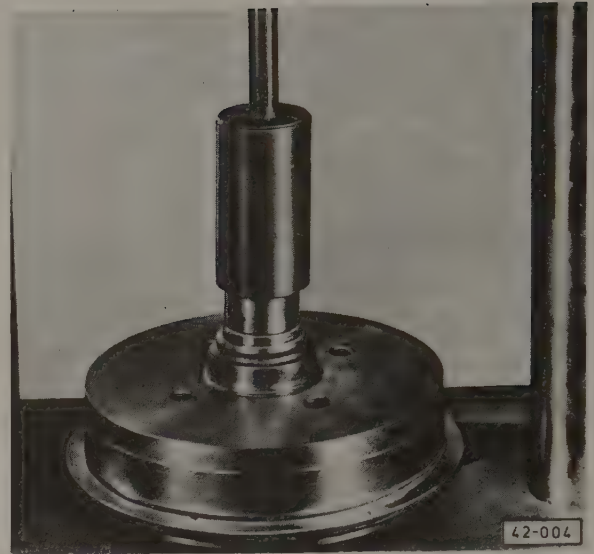

Fig. 6-4. New outer wheel bearing outer race being pressed into hub. Brake drum shown. Installation in disc brake rotor is similar.
3. Install the outer bearing races in the hub, using a hydraulic press as shown in Fig. 6-4 and 6-5.